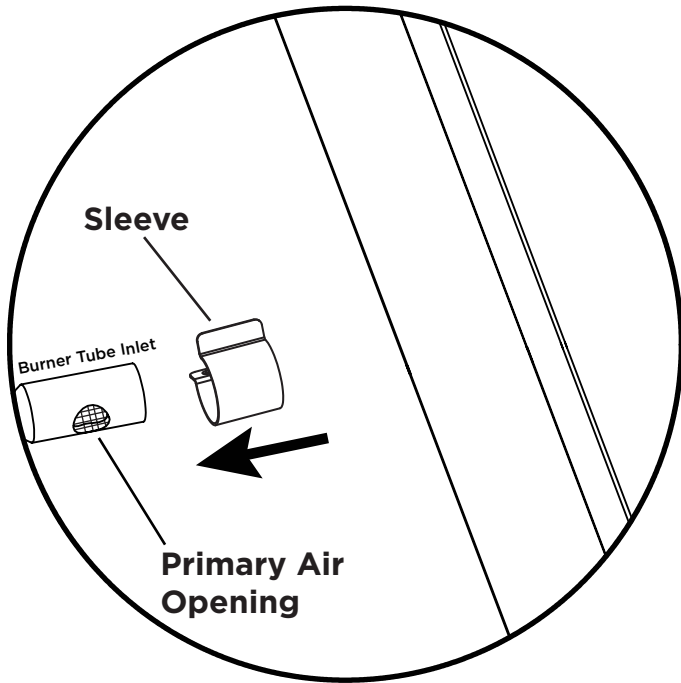

Fig. 1
6. Slip the sleeve over the primary air opening (see Fig. 1). Next, screw the new NG orifice spud into the burner tube inlet (see Fig. 2).